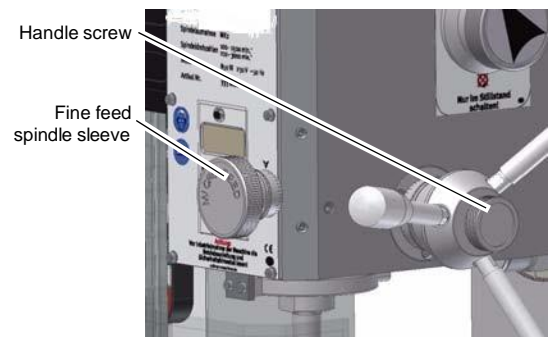

Fig.4-7: Fine feed
- Loosen the handle screw (Fig.4-7: „Fine feed“ on page 30) .